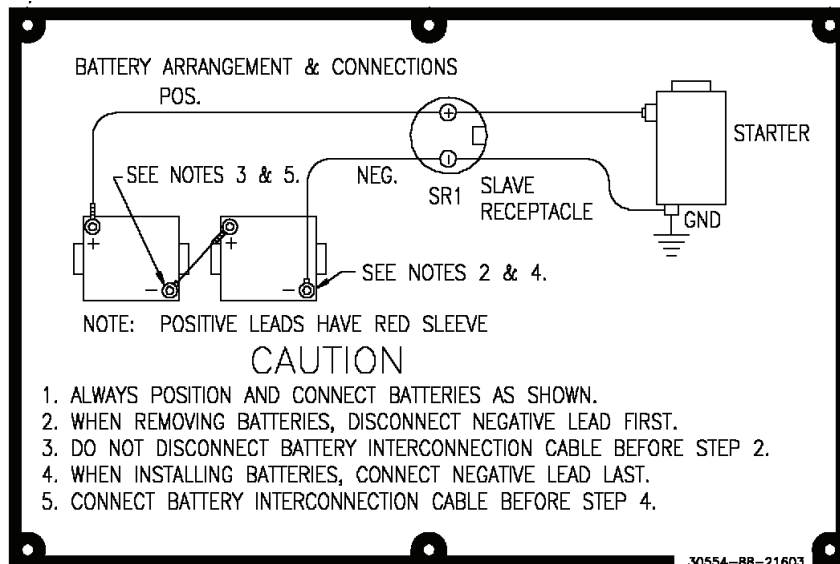

Figure 1 BATTERY CONNECTION INSTRUCTION PLATE
1. Disconnect the batteries in accordance with BATTERY CONNECTION INSTRUCTION PLATE, figure 1, located in the battery compartment.
6. Re-connect batteries in accordance with the Battery Connection Instruction Plate, figure 1.